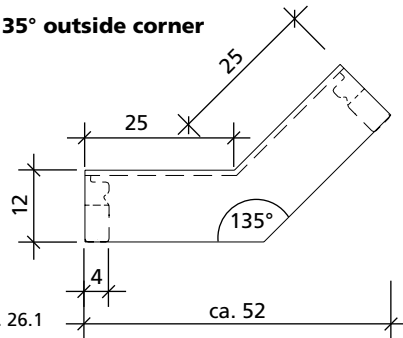

Fig. 26.1
■ Outside corner 25 cm (Fig. 26.1)